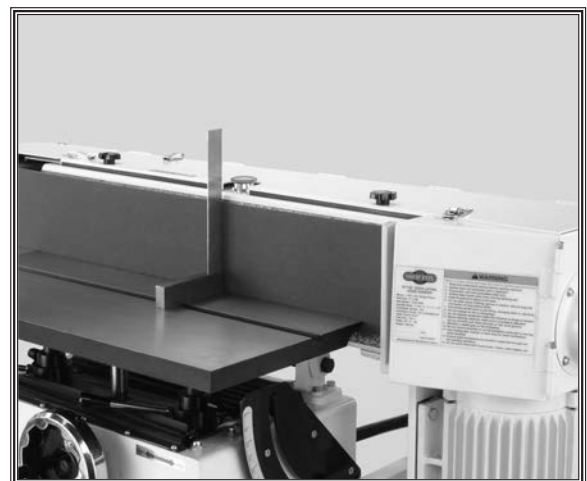

Figure 37. Aligning table to platen.
3. Adjust the platen until it is flush with the machinist's square as in **Figure 37**.